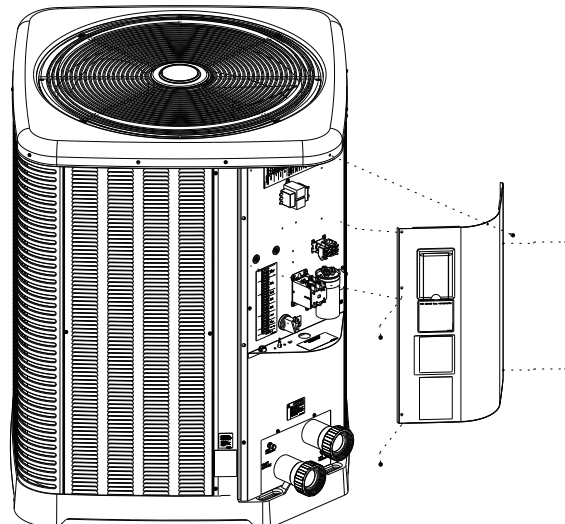

Fig. 8: Sheet Metal Screws to Remove Control Panel
2. Remove the 5 screws securing the control panel cover from the cabinet (2 each side and 1 in the top panel – see Fig. 8 below). Place the screws in the recessed cups in the molded bas.